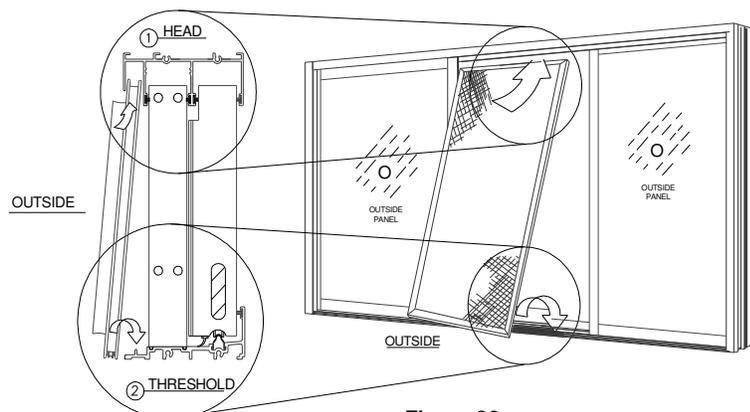

**Figure 34:**
- Attach the false jamb to the sill block using a (1) #10 PHP-A, 3" screw.
- Add (4) #8 PHP-TEK, 3/4" screw along the false jamb interior of fixed panel (Figure 34).
- Using (4) #8 x 3/4" long pan head self-tapping screws (Figure 34).